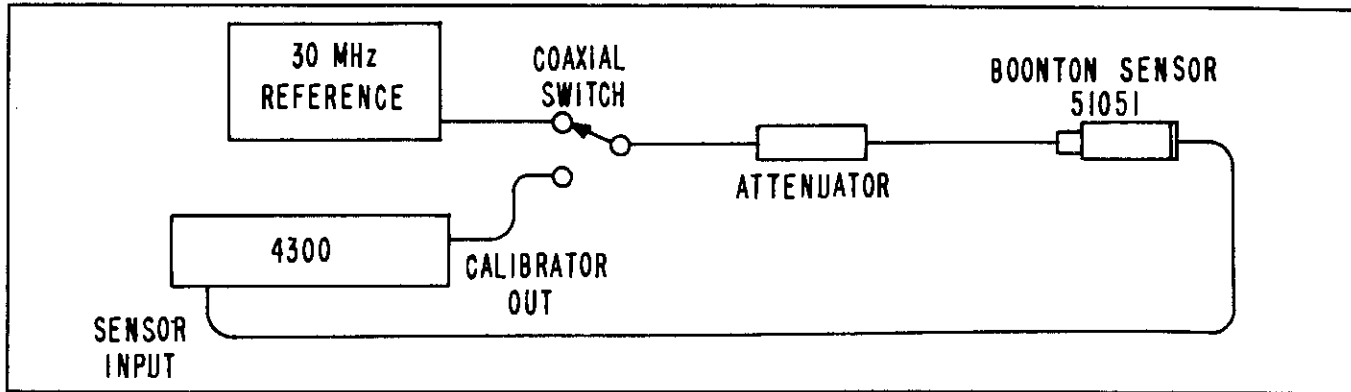

Figure 6-203. 30 MHz Calibration Above 10 dBm
15. +20 dBm Adjustment. Insert a 10 dB attenuator in series with the sensor as shown in Figure 6-203. Adjust this range as done for other ranges, and press ENTER as the last step, to store the calibration results. The 4300 will exit from